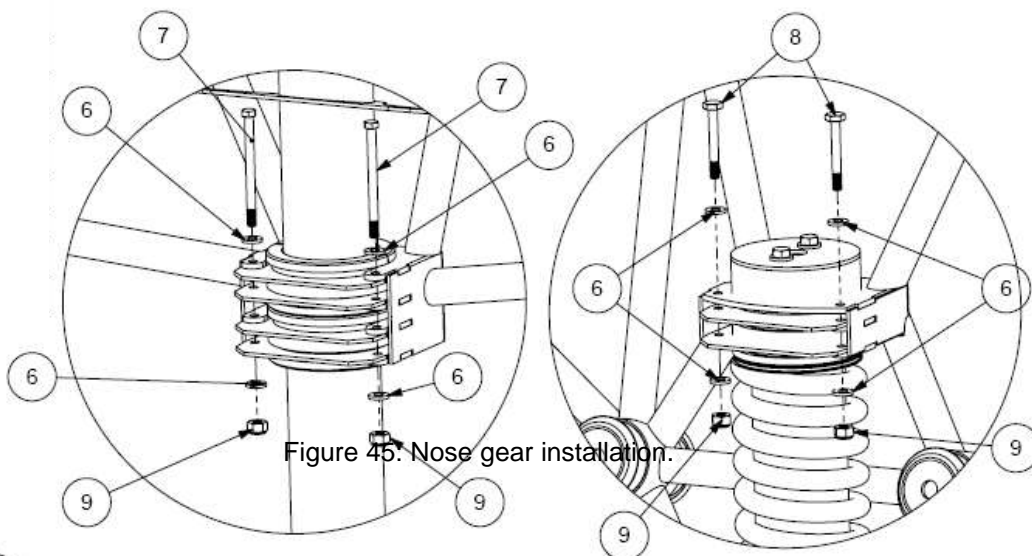

Figure 45. Nose gear installation.
- Tighten the lock-nuts sufficiently, observe the correct placement of washers and bearings (refer to Figure 45) and note that the bolts are installed with the bolt heads facing up.